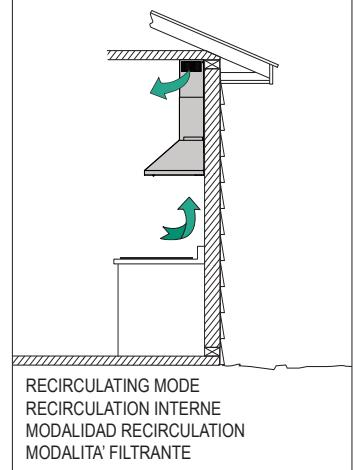

Fig.4
3.2. METAL ANTI-GREASE FILTERS (Fig. 4 ⑩)
3.3. ACTIVATED CARBON FILTERS (Fig. 4 ⑪)